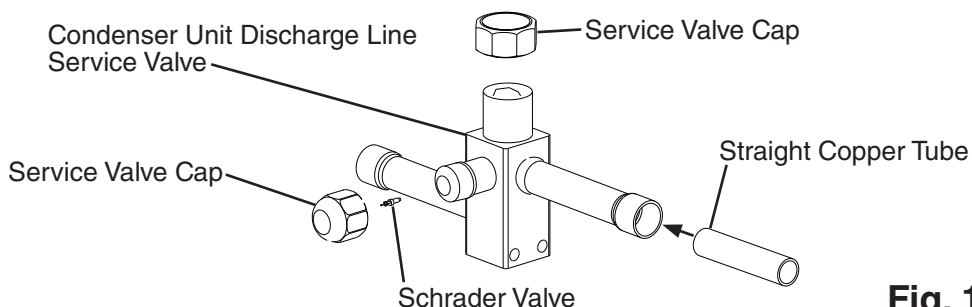

Fig. 10
- 3) Remove the Schrader valves from the icemaker service valves. Next, remove the straight copper tube from the icemaker accessory bag and place it in the icemaker liquid line service valve. See Fig. 10. Next, place the liquid line copper tube into the straight copper tube.
- 6) Remove the Schrader valves from the condenser unit service valves. Next, remove the straight copper tube from the accessory bag and place it in the condenser unit liquid line service valve. See Fig. 10. Next, place the liquid line copper tube into the straight copper tube.